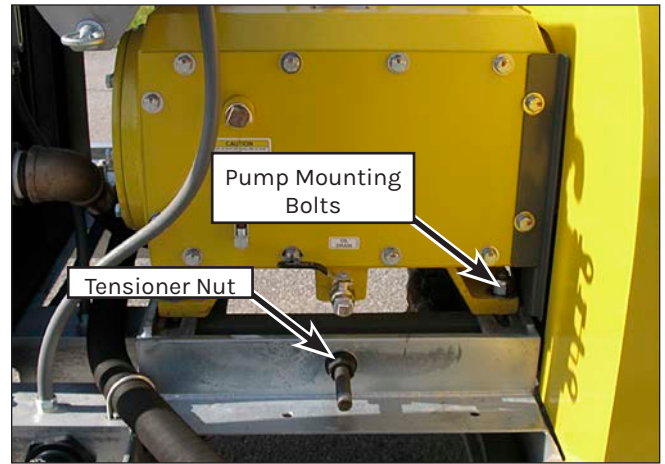

Figure 140: Adjustment Hardware.
1. Loosen the four pump mounting bolts (Figure 140). the bolts are located on each corner of the pump.
3. Loosen the four pump mounting bolts (Figure 140).